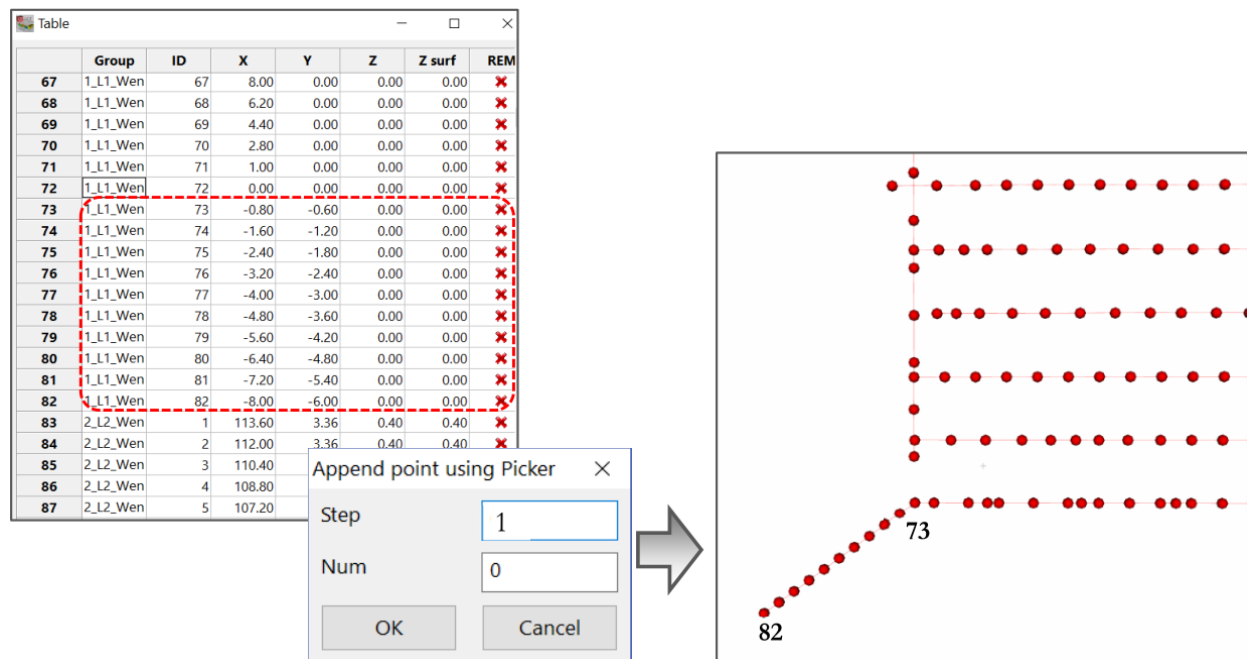

Figure 18.11: More electrodes are added to the scene, choosing the spacing of 1m from each other's
- **Step= n; Num=0:** some electrodes are inserted in the line, starting from the point of the selected row in the table until the clicked picker point, proceeding with steps equal to the specified values. The electrodes are placed in the scene automatically. As a consequence of the step and the starting-ending position choices the numbers of the added electrodes are automatically found (Figure 18.11).